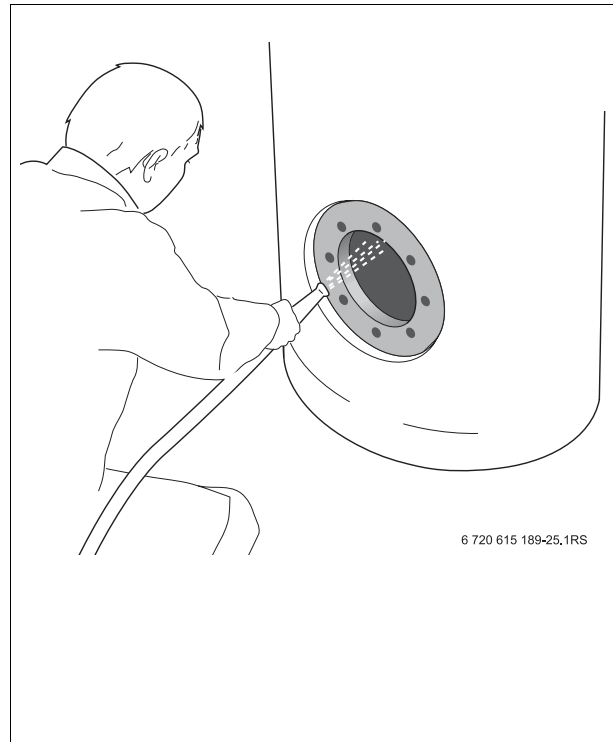

Fig. 20 Spraying for cleaning of the solar hot water tank
- Rinse out inner surface with a strong cold water stream (58 - 72.5 psi / 4 to 5 bar) (→ Fig. 20).